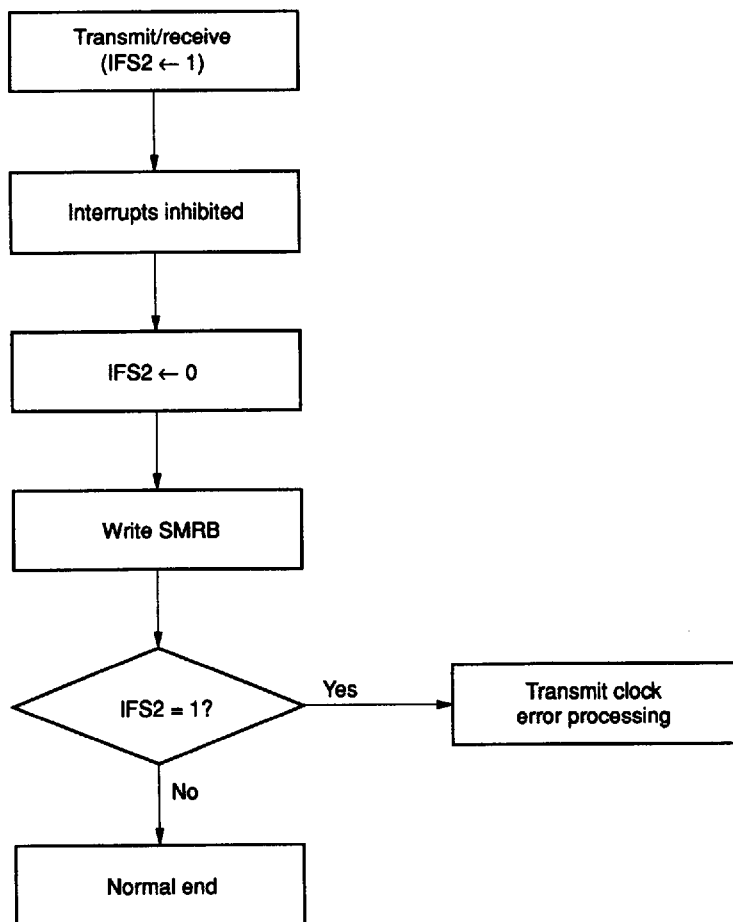

Figure 41 Transmit Clock Error Detection
**Transmit Clock Error Detection:** Serial interface 2 will malfunction if a spurious pulse caused by external noise conflicts with a normal transmit clock during transmission. A transmit clock error of this type can be detected as shown in figure 41.